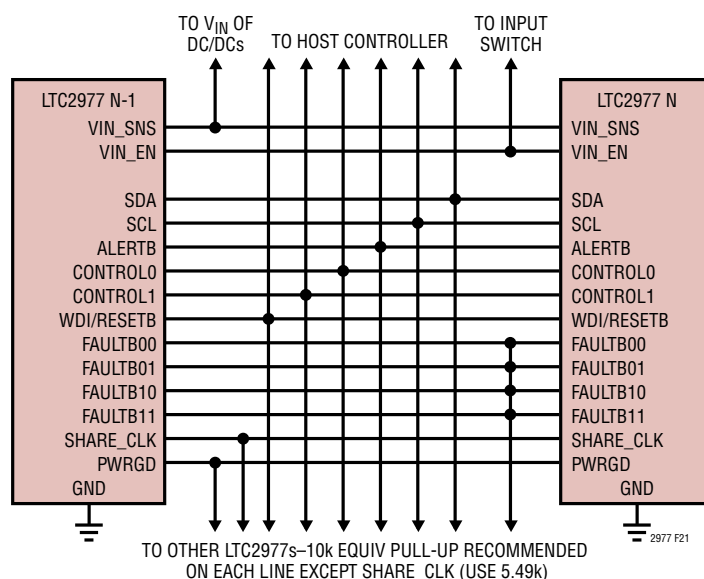
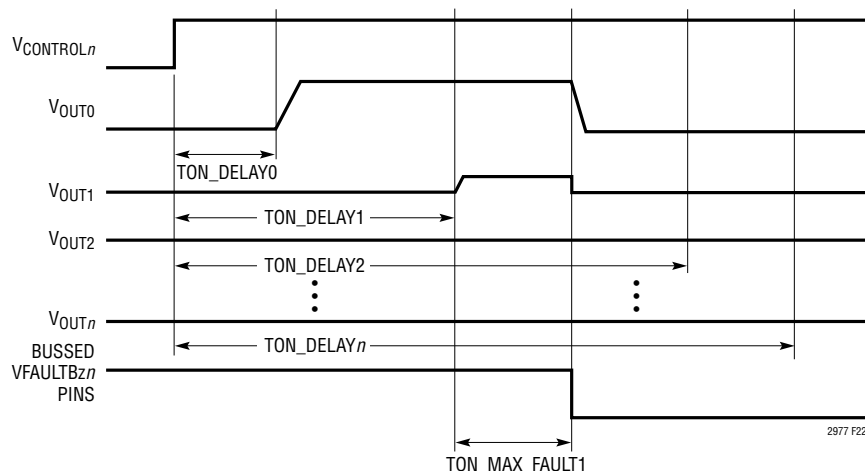

Figure 21. Typical Connections Between Multiple LTC2977s
Figure 22. Aborted On Sequence Due to Channel 1 Short
Figure 21 shows how to interconnect the pins in a typical multi-LTC2977 array.
- The FAULTBzn lines can be connected together to create fault dependencies. Figure 21 shows a configuration where a fault on any FAULTBzn will pull all others low. This is useful for arrays where it is desired to abort a start-up sequence in the event any channel does not come up (see Figure 22).
- PWRGD reflects the status of the outputs that are mapped to it by the MFR_PWRGD_EN command. Figure 21 shows all the PWRGD pins connected together, but any combination may be used.